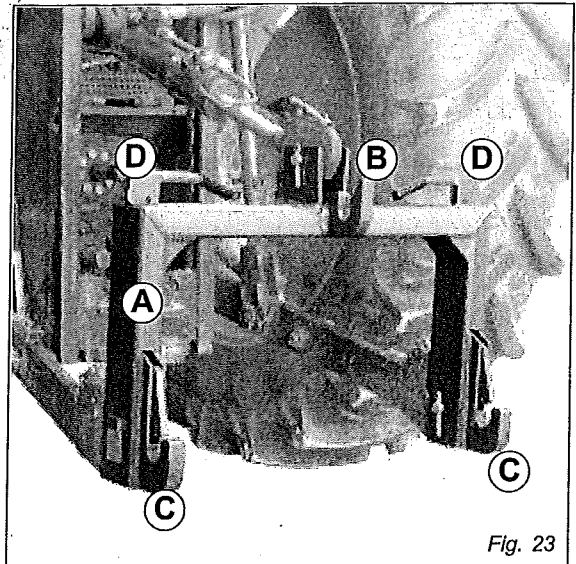
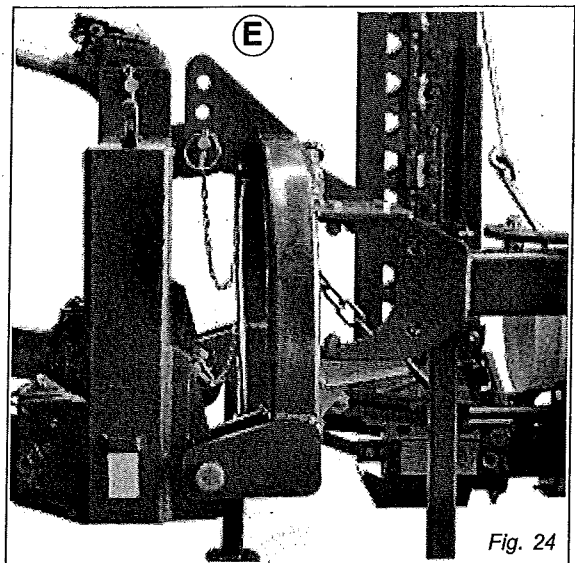

Fig. 23
Fig. 24
- 1) Install hitch Quick Coupler (A, Fig. 23) on the tractor (see tractor operator manual).
- 2) Stop vehicle on a level surface, not on a slope, then moving back to the tractor until the Quick Coupler (A) is range with the (B and C, Fig. 23) hitch points of the sickle bar.
- 3) Raise the Quick Coupler (A, Fig. 23) and make sure that sickle bar hitch is in the right position (E, Fig. 24).
4. Raise the two Quick Coupler levers (D, Fig. 23) to unloch sickle bar.